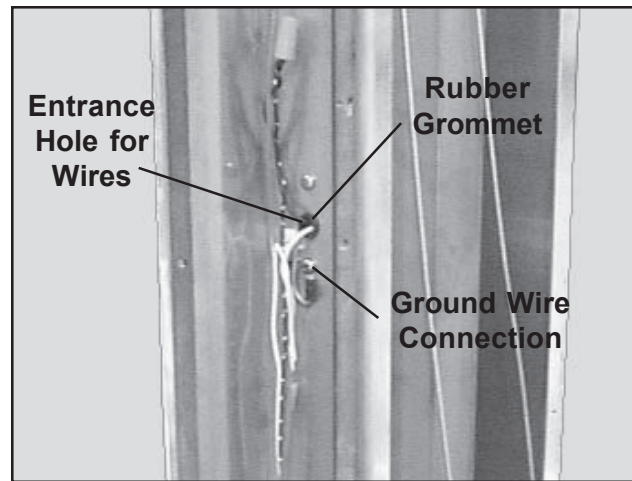

Figure 12. Ground Wire Connection
4. Insert a rubber grommet (supplied) over the wires from the column and into the holes in the fixture and the column to protect the wires (Figure 12).